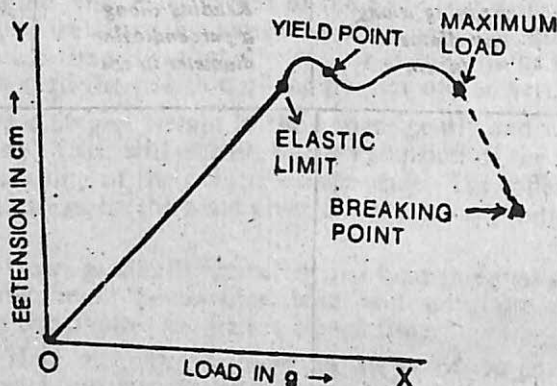

Fig. 34.2. Stress-strain curve.
8. Plot a graph between load (put on hanger) and extension, taking load on the x-axis and extension on y-axis with suitable scales. It will be a straight line within the elastic limit showing that extension is proportional to load (Hooke's Law) (Fig. 34.2).